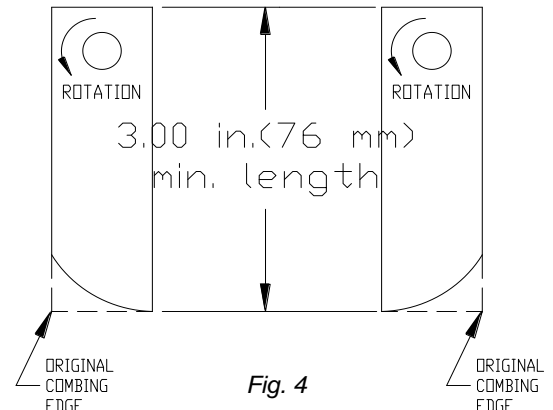

Fig. 4
4. Inspect blades for wear, and immediately replace any bent, or cracked blades. Measure the overall length of the blade. (See Fig. 4)